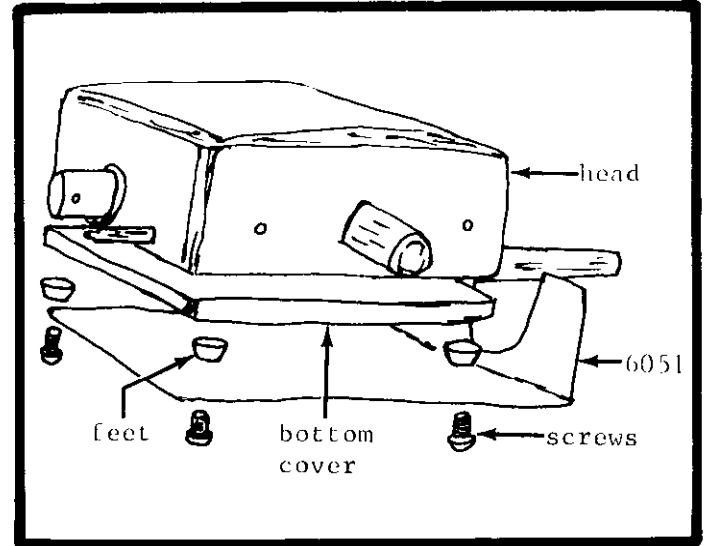

FIGURE 10. Keithley Model 605 Input Head and Model 6051 Mounting Bracket.
b. To attach the Input Head to the Mounting Bracket, remove the four screws on the bottom of the Input Head. Place the four rubber feet between the Input Head and the Mounting Bracket. Fasten together using the four previously removed screws. (Refer to Figure 10.)